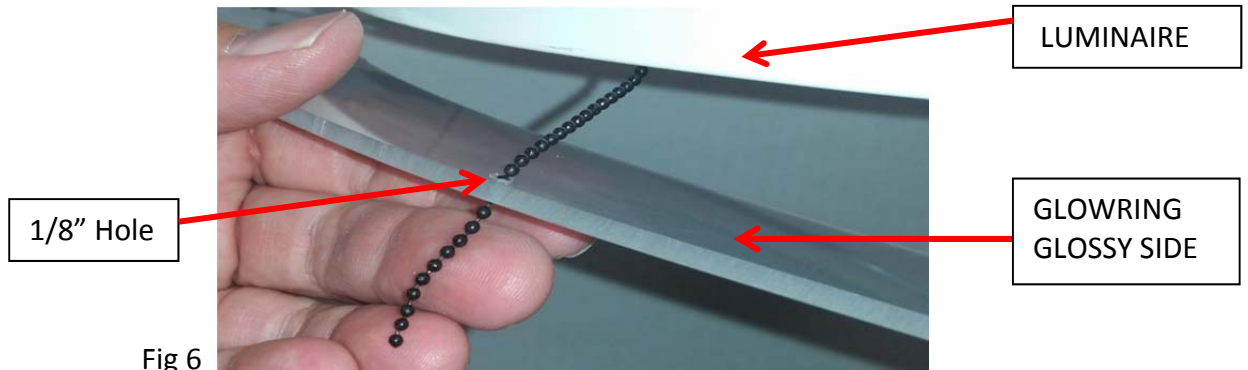

Fig 6
4. Insert the end of one of the Ball Chains through the 1/8" hole in the RING. See Fig 6.